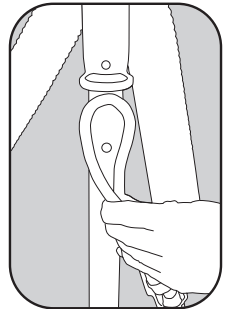

Fig. 3
1. Create a loop in the power cord, and push it through the slot and over the hook of the cord retainer (Fig. 3).